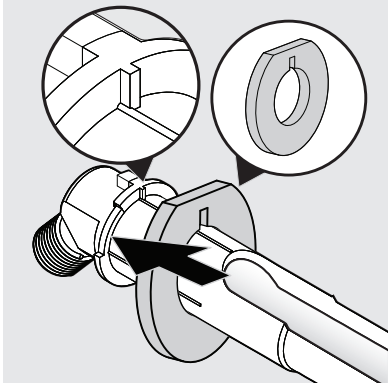

Figure 7
- Remove the silicone paper on the foam pads. Stick the ring shaped foam pad to the fill tube. See Figure 7.